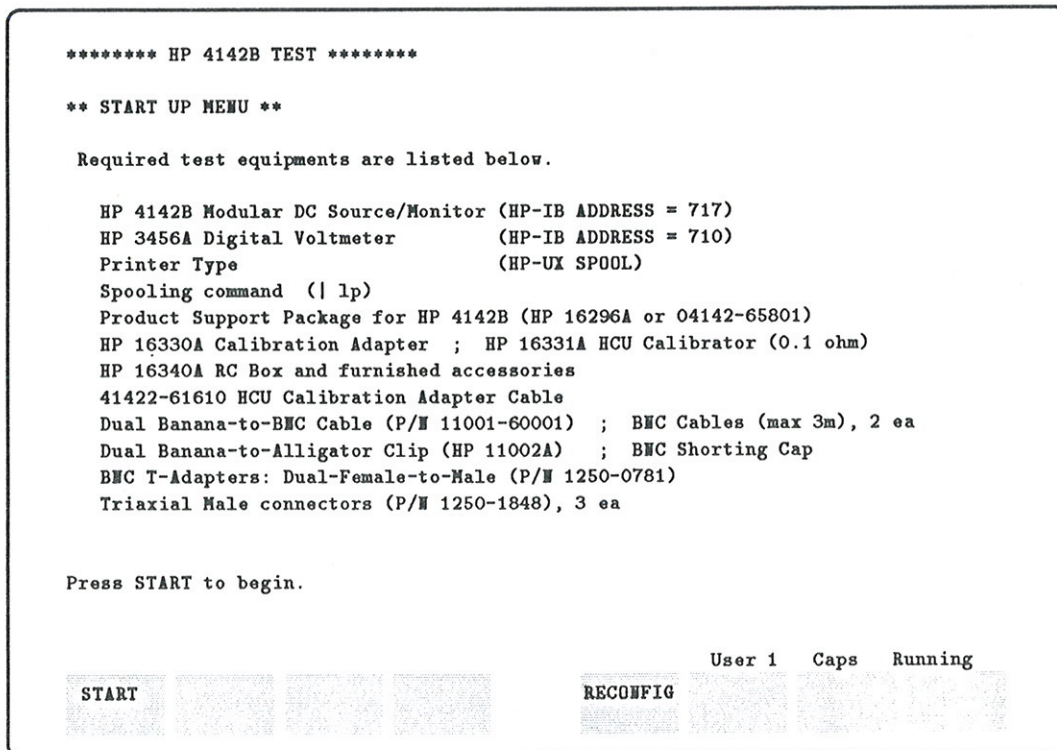

Figure 2-34. The 4142B Test Start-up Menu Page
1. Select the **4142B** softkey from the PV4062 main menu. The 4142B Test start-up menu page is displayed as shown in Figure 2-34.